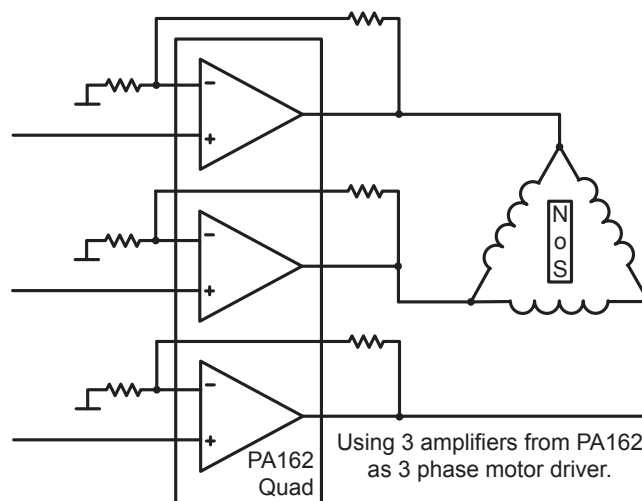

FIGURE 4. 3 Phase Inverter
-Vs (pins 11, 15, 16 and 20) must be tied to the heatslug externally on the PCB. To ease metal routing on the PCB, run a direct trace from the -Vs pin to the center heat slug. The PA162 can be used in a three amplifier configuration for a three phase inverter or motor as shown in Figure 4.